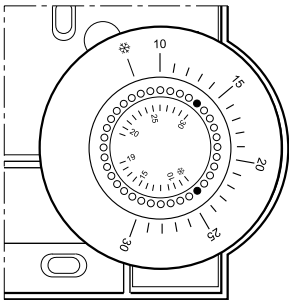

Fig. 15: Limiting the adjustment range
- ▶ Place the two small pins into the holes of the adjustment dial in order to limit the adjustment range (see Fig. 15). Orientate yourself on the basis of the inner scale: In Fig. 15, the pins are inserted so that the adjustment dial can only be adjusted in the range of 19 °C to frost protection \* (lower limit) and 19 °C to 30 °C (higher limit) around the value 19 °C.